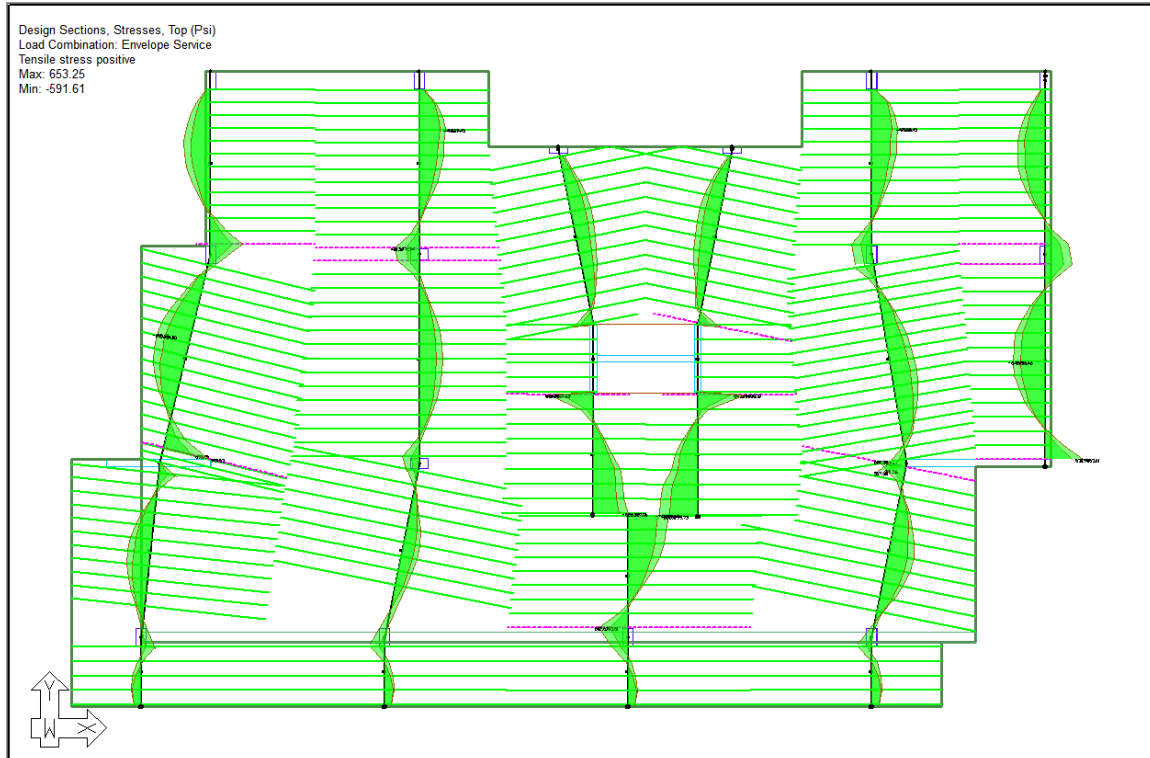

FIGURE 9-108
- The model should show failing design sections as shown in **FIGURE 9-108**.